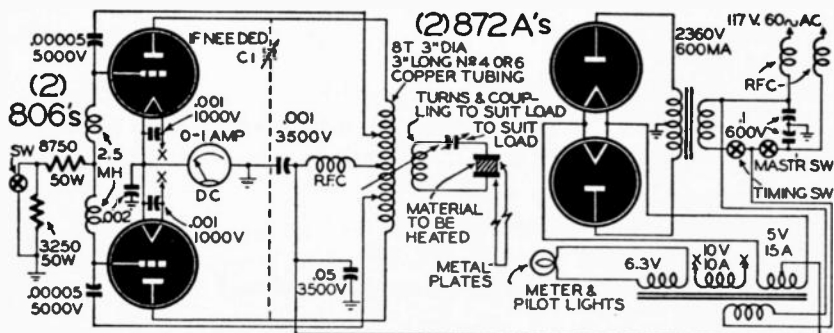

Fig. 213
A. A circuit for a heater of approximately 1 kilowatt is shown in Fig. 213. For best results an electric heater must be designed for the given job. Values specified in the circuit are therefore approximate and may be modified to suit the job you have in hand. Power required is usually more than 1 kilowatt, and frequencies 30 mc or higher.